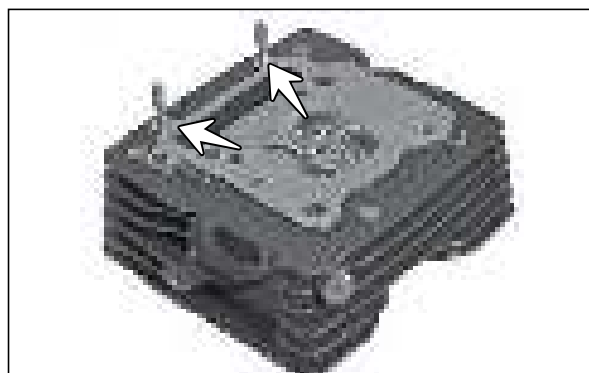

Fig. 3.59
- Using M6 nuts, remove stud bolt cylinder head (2 Nos.) from cylinder head complete. (Fig. 3.59)